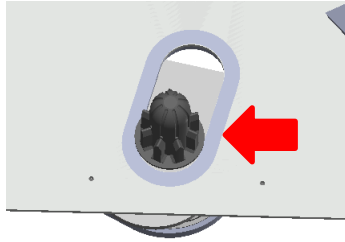

Fig. 10.
5. After replacing the new roller brush, place it in the roller brush cavity, put it into the opposite drive shaft slot (Fig. 10), arrange the roller brush bristles, cover the roller brush left guard, fix the pressure plate, install the roller brush fixing plate, tighten the screw, and replace the roller brush shield.